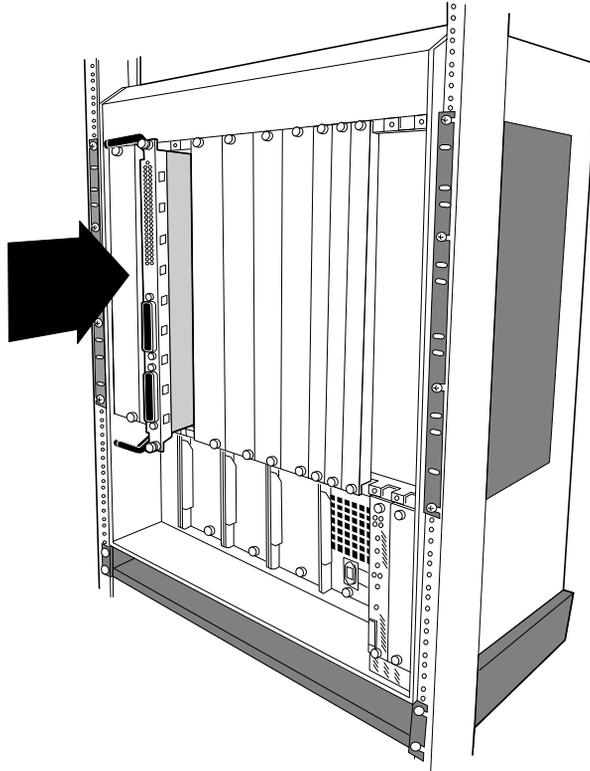

Figure 2-5 Installing the Edge Router Module in an ONcore Hub
- 3 Insert the module into the board guides at the top and bottom of the slot and slide it into the hub by pressing firmly at a point slightly below the center of the faceplate (Figure 2-5).